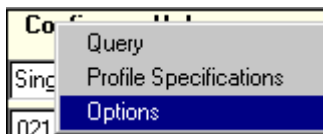

Figure 22. Opening the Settings Dialog
1. Choose **Configure>Options** from the Menu Bar, Figure 22.